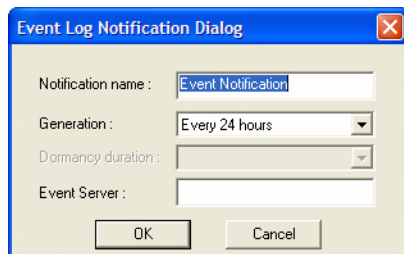

Figure 13-15: Configuring Event Log notification
- 1) From the AirMagnet Policy Notification List, check the Event Log radio button. The Event Log Notification dialog box appears. See Figure 13-15.